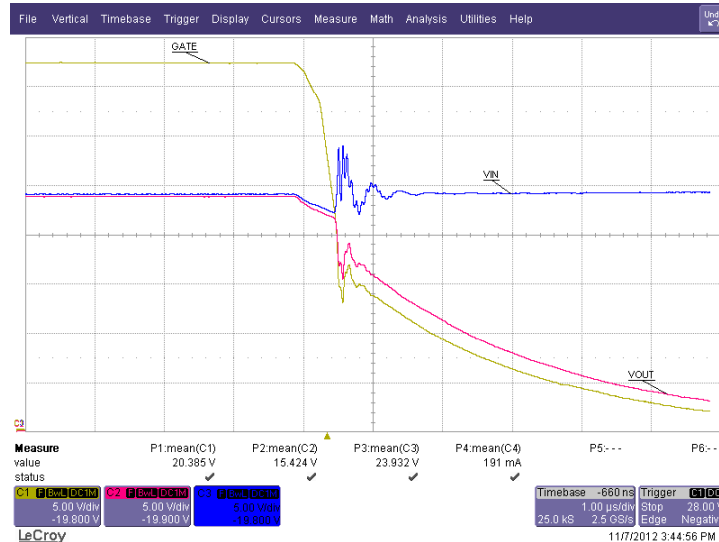

Figure 33. Current Limit Onset
**Response to a Hard Output Short (Figure 32 and Figure 33)**
The TPS2482 and TPS2483 respond rapidly to the short-circuit as seen in Figure 33 (horizontal time base is 1  $\mu\text{s}/\text{div}$ ). The falling OUT voltage is the result of the pass-MOSFET and  $C_O$  currents through the short-circuit impedance. The internal GATE diode clamp causes the GATE voltage to follow the output limits the negative  $V_{GS}$  to 1~2 V. The rapidly rising fault current (not shown) overdrives the GATE amplifier causing it to overshoot and rapidly turn the pass-MOSFET off by sinking current to ground. The pass-MOSFET eventually turns back on as the GATE amplifier recovers and settles to an equilibrium operating point determined by the power-limit engine.
Minimal input voltage overshoot appears in Figure 33 because a local 100- $\mu\text{F}$  input bypass capacitor and very short input leads were used. In a typical application, as the input current abruptly drops, the input voltage may overshoot significantly due to stored energy in the input distribution inductance. The exact waveforms seen in an application depend upon many factors including parasitics of the voltage distribution, circuit layout, and the nature of the overload or short-circuit itself.